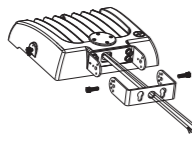

figure 4.2
Step 2: Tighten the brackets and screws. (figure 4.2)